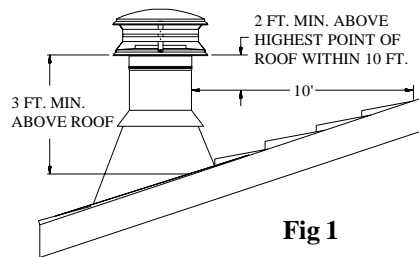
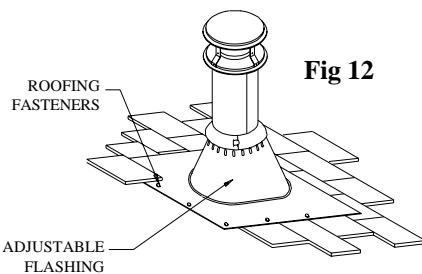

Fig 1
Fig 12
The National Fire Protection Association Standard #211 states: "Chimneys shall extend at least three feet above the highest point where it passes through the roof of a building, and at least two feet higher than any portion of a building within ten feet." (Fig 1) DuraTech Chimney may be installed up to 60 feet high. If the chimney extends more than 5 feet above the roof, an Extended Roof Bracket must
9. Attach Flashing: In new construction, assemble the Chimney Sections to a point above the roof, then slip the Flashing over the chimney. On an existing roof, center and install the Flashing before extending the chimney above the roof. Allow space to permit sliding the next Chimney Section up through the Flashing. Always insure the chimney remains vertical (use level), and that at least a 2-inch clearance to combustible materials is maintained all around. Install the upper edge of the Flashing under the roofing. Nail to the roof along the upper edge and down each side with 1-inch roofing nails. Do not nail the lower edge of the Flashing (Fig 12). Be sure to follow local building practices, as needed. Seal all nail heads with a non-hardening waterproof sealant. On flat or tarred and graveled roofs, nail and seal the Flat Roof Flashing to the roof on all sides with roofing compound. Do not put screws through the Flashing into the Chimney Pipe.
sealant around the chimney at the point where the Storm Collar will meet the chimney just above the Flashing. (Figures 12 and 13). Slide the Storm Collar down over the chimney to the top of the Flashing. Tighten and seal the Storm Collar against the sealant. After installing sufficient Chimney Sections to meet the height requirement (Fig 1), attach the Chimney Cap onto the top of the chimney by holding the collar of the cap and twist locking it clockwise